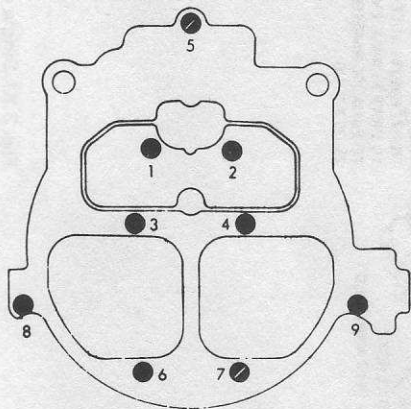

Fig. 3.59 Tightening sequence of air horn securing screws (Rochester Quadrajets 4MV carburetor) (Sec. 24)
- 24 Reassembly is the reverse of the dismantling procedure. Use all the items in the repair kit. During assembly carry out the settings and adjustments described in Section 18. When installing the idle mixture needles and springs, turn them in until they are just seated and then back them off  $1\frac{1}{2}$  turns for an initial setting. Tighten the air horn securing screws in the sequence shown in Fig. 3.59.